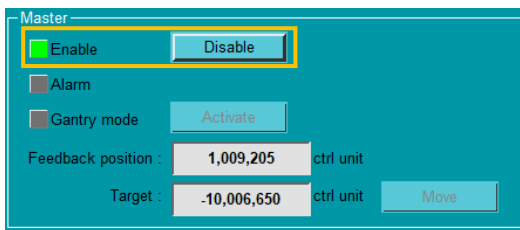

Figure 7.2 Enable Master
- (1) Click **Enable** button of Master. When the motor is enabled, the status light of **Enable** in Master will light up in green, as figure 7.2 shows. Click **Disable** button of Master.